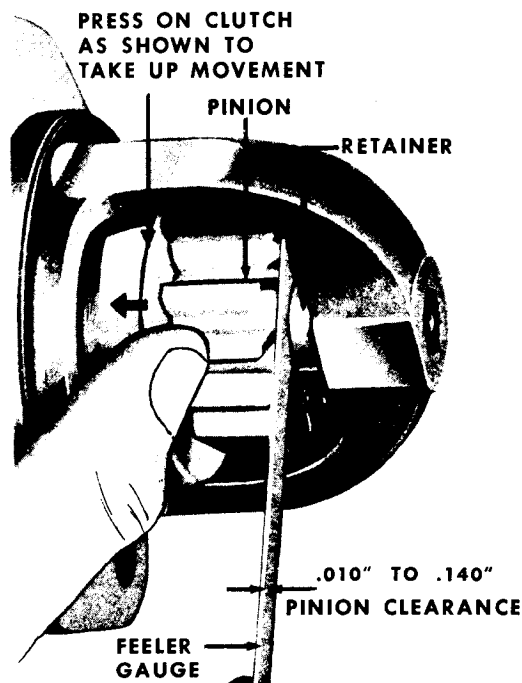

Figure 25—Checking pinion clearance on intermediate duty clutch motor.
4. Measure the distance between drive and drive stop (Figs. 25, 26, and 27).